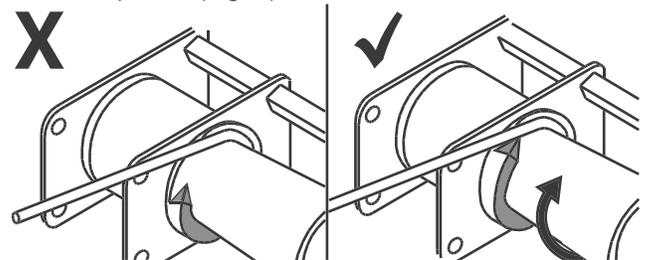

Figure 3: Proper Rope Ramp Position
14. Adjust the rope ramp to touch the rope as it enters the capstan. (Fig. 3)